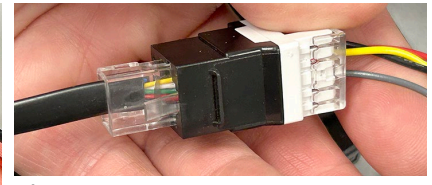

Figure 27
27. Connect the 8076535-coupler RJ (ethernet) connector to the RJ (ethernet) cable from the IO board (see Figure 27).